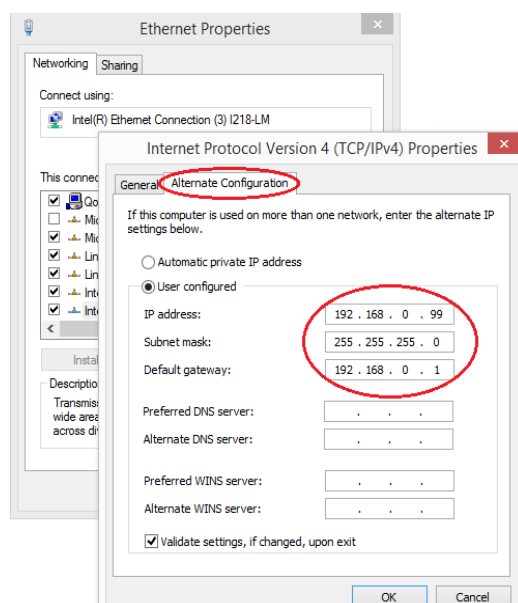

**Figure 1-7.** Internet Protocol Version Properties Window
3. Enter the IP address, Subnet mask, and Default gateway as shown in Figure 1-7.